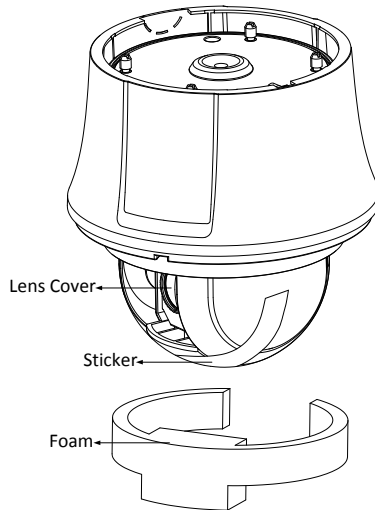

Figure 2-33 Disassemble the Speed Dome
3. Remove the protective lens cover, foam and sticker from the dome drive as shown in Figure 2-33.